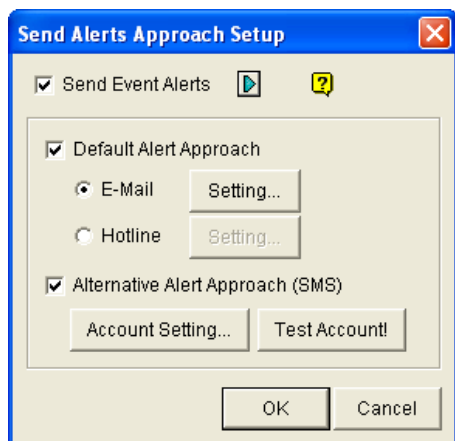

Figure 1-63
1. In the Send Alerts Approach Setup dialog box (Figure 1-63), enable **Default Alert Approach**, select **E-Mail** and click the **Setting** button. This dialog box appears.
1. In the Send Alerts Approach Setup dialog box (Figure 1-63), enable **Default Alert Approach**, select **Hotline** and click the **Setting** button. This dialog box appears.